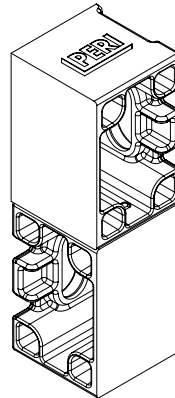

Fig. B5.09b
- external corners (Fig. B5.09b)